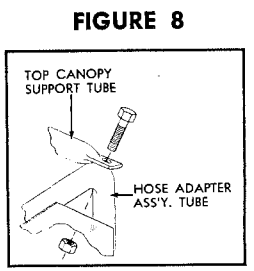

FIGURE 8
12. Fasten top Trailer Canopy tubes (52) to hose adapter ass'y. tube (53) using $\frac{5}{16}$ -18 bolt and nut as shown in Figure 8.